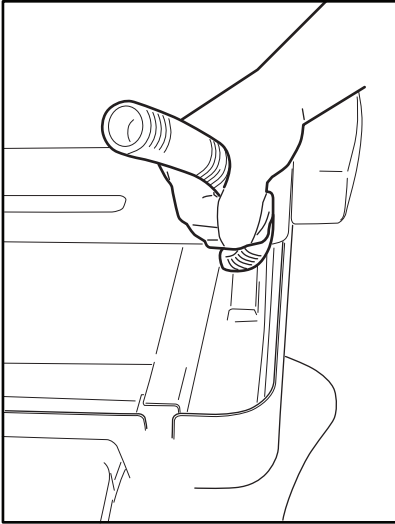

Figure 11. Pull the umbilical upward and route along the outside of the spring area. (View shown: front/right)
**Bel-50 Chairs:** *Please refer to figure 11.*